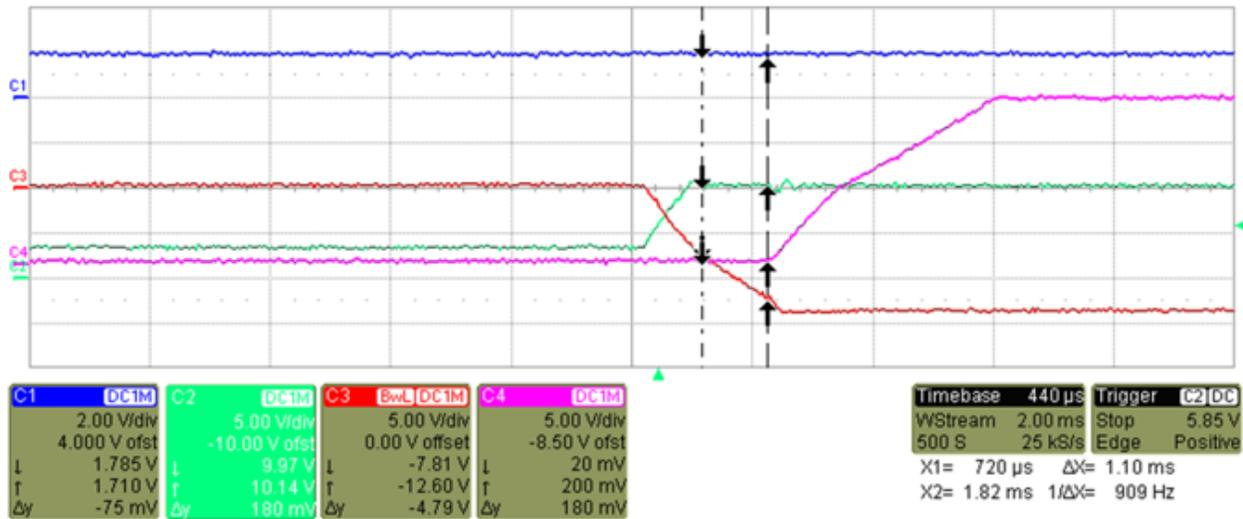

图 15. DMD Start-Up Power Sequencing
- 图 15 shows the power supply power up.